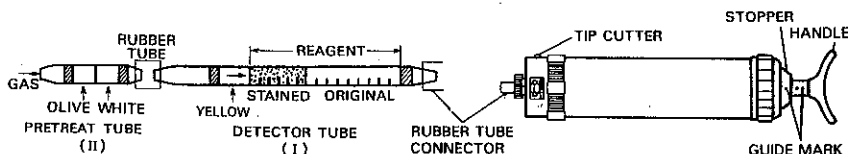

Fig. 1
1. Break both ends of a new detector tube ( I ) and pretreat tube ( II ) by using the tip cutter, and connect each end of the detector tube ( I ) and pretreat tube ( II ) with rubber tube as shown in Fig. 1.